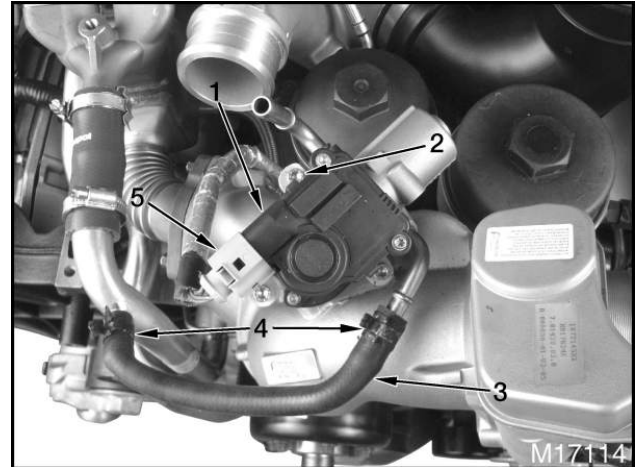

Figure 95 EGR valve assembly
3. Loosen two hose clamps and disconnect EGR valve coolant return hose (not shown in Figure 95).